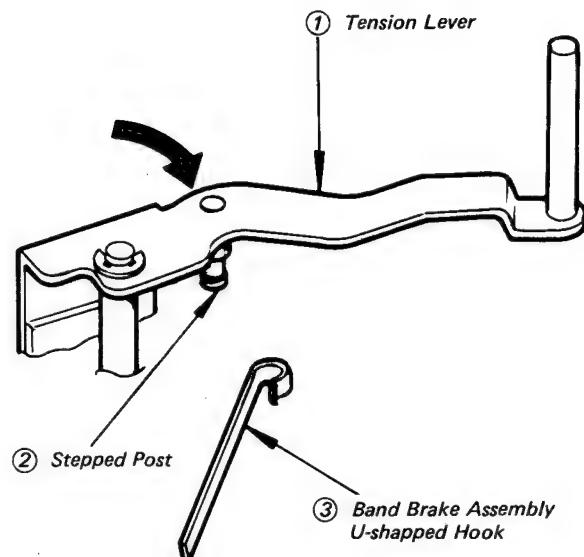
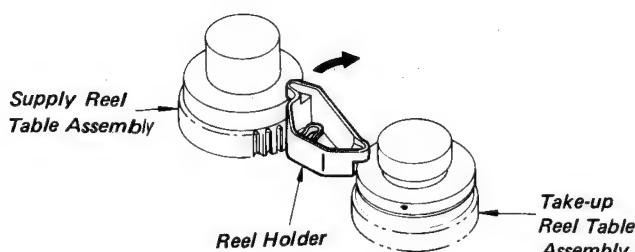

Fig. 5-37 Band Brake Removal
Fig. 5-39 RF Lever Holder Detaching
3. Turn the FR lever holder in the arrow direction (↗) (see Fig. 5-39).
4. Press the tension lever ① on the vicinity of its root so as to turn a little in the arrow direction (↗).
5. Detach the U-shaped hook of the band brake assembly ③ from the stepped post ② (see Fig. 5-37).
5. Turn the reel holder in the arrow direction ( $\curvearrowleft$ ) in Fig. 5-39.
1. Return the FR lever to the original position (Fig. 5-39).